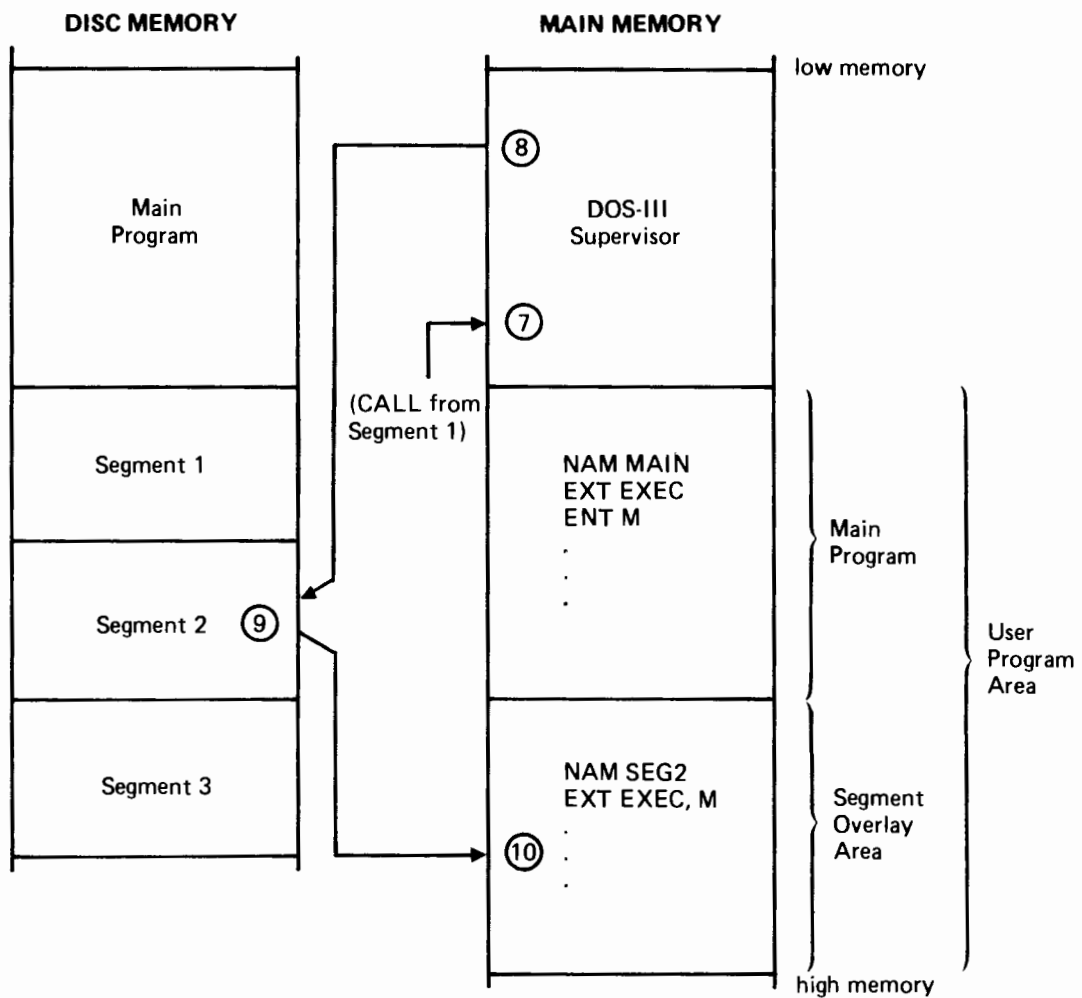

Figure 5-3. Segment Calling Segment
Figure 5-3 shows how DOS-III processes the call from the segment (7) by locating the segment on the disc (8-9), loading it into main memory (10), and beginning execution of it.